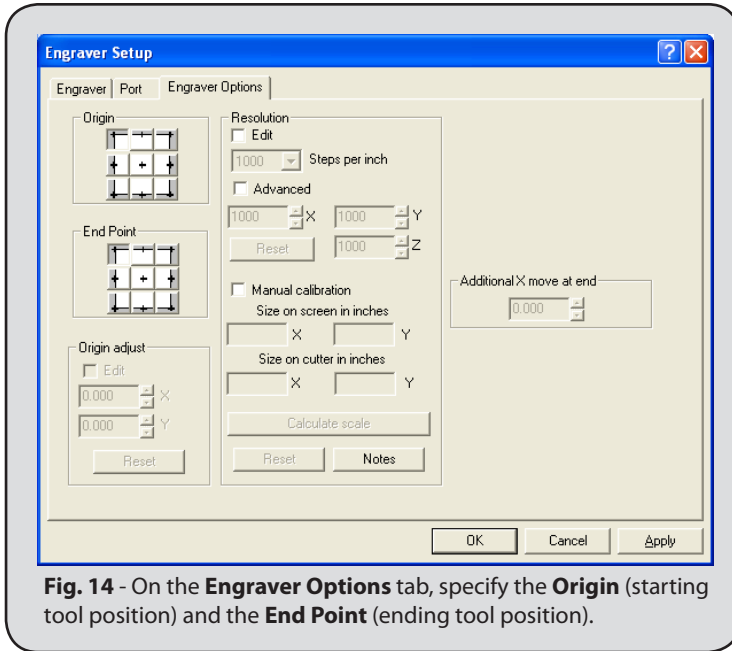

Fig. 14 - On the **Engraver Options** tab, specify the **Origin** (starting tool position) and the **End Point** (ending tool position).
17. Click the **Engraver Options** tab (Fig. 14).